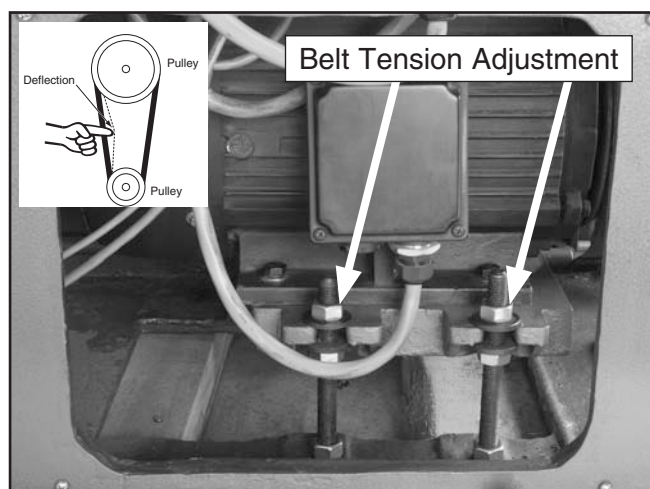

Figure 109. V-belt adjustment.
2. Open rear cover on the lathe base (**Figure 109**).
3. Use a 24mm wrench and adjust the belt tension hex nuts (see **Figure 109**) there is approximately 10mm belt deflection on each belt when pressed firmly in the center in between the pulleys.